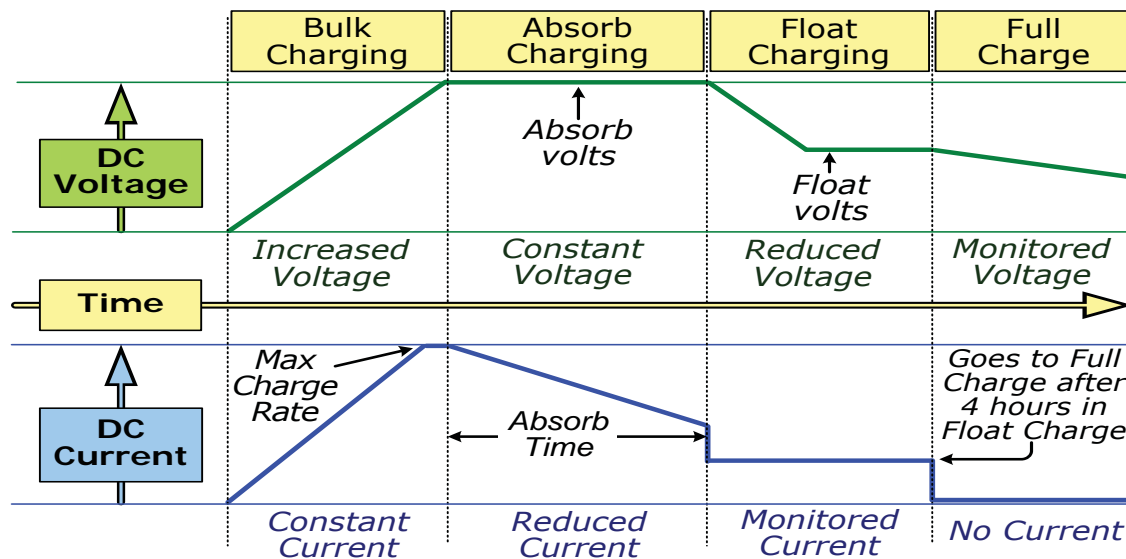

Figure 3-3, Automatic 4-Stage Charging Graph
The MSH-M Series' multi-stage charger can use up to five different charging stages to help keep the batteries healthy. The five stages include an automatic 4-stage charging process (see Figure 3-3): Bulk, Absorb, Float, and Full Charge; and a manual Equalization (EQ) charge stage. The automatic 4-stage charge process provides complete recharging and monitoring of the batteries without damage due to overcharging. The EQ stage (requires a remote display to enable) is used to stir up stratified electrolyte and to reverse any battery plate sulfation that may have occurred. While charging, the unit may go into charger back-off protection, which automatically reduces the charge current to the batteries. This is caused by: 1) The internal temperature is too hot—the charger automatically reduces the charge rate to maintain temperature; or 2) The AC input voltage falls below 90 VAC—the charger will stop charging to help stabilize the incoming AC voltage.